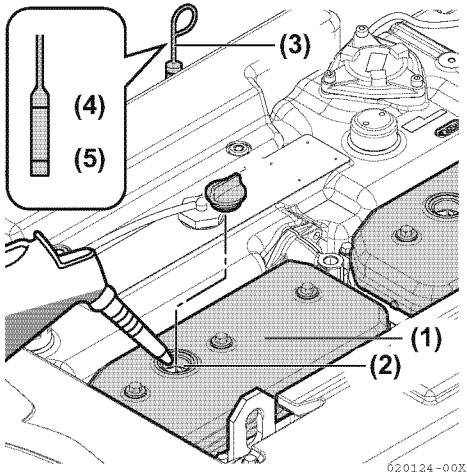
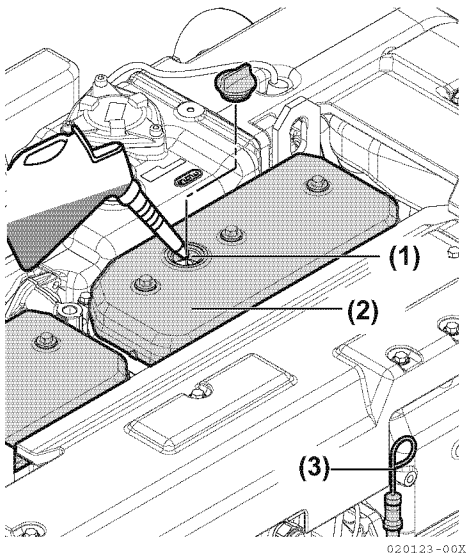

Figure 8
Figure 9
2. Remove dipstick (**Figure 8, (3)**) or (**Figure 9, (3)**) and wipe with clean cloth.
4. Remove dipstick. The oil level should be between upper (**Figure 8, (4)**) and lower (**Figure 8, (5)**) lines on the dipstick.
1. **NOTICE:** Prevent dirt and debris from contaminating the engine oil. Carefully clean the dipstick and the surrounding area before you remove the cap. Remove the yellow oil filler port cap from filler port (**Figure 8, (2)**) or (**Figure 9, (1)**) and fill with engine oil.
2. Fill with oil to the upper limit (**Figure 8, (4)**) on the dipstick (**Figure 8, (3)**) or (**Figure 9, (3)**).
1. Approximately 10 minutes after stopping the engine, remove the oil dipstick (**Figure 9, (3)**) and check the oil level. Add oil if the level is too low.